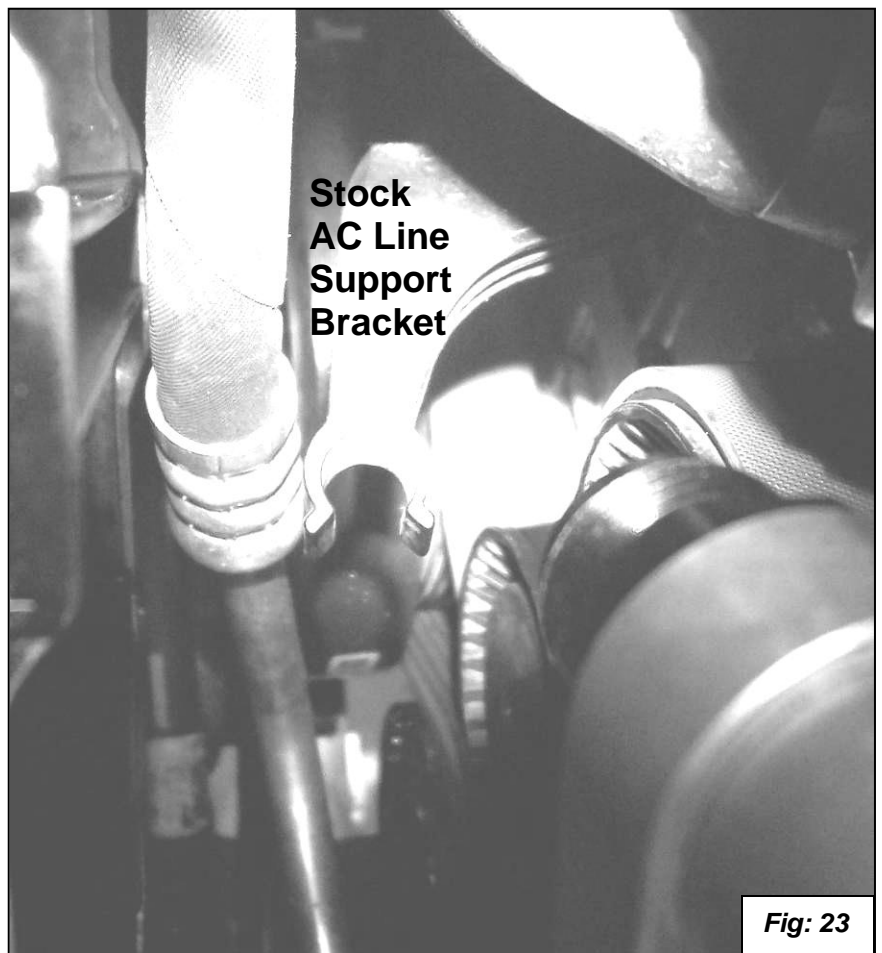

Fig: 23
25. Replace the AC Line Support Bracket. To make room for the new Oil Cooler Hoses you will need to remove the stock plastic AC line support bracket from the front of engine. This bracket will be replaced by a new steel AC Line Support Bracket that relocates the AC line down and slightly forward. Pull the AC line out of the C-shaped tip of the stock support bkt. Remove bracket and save the single mounting bolt for the new support bracket. **See figure 23.**